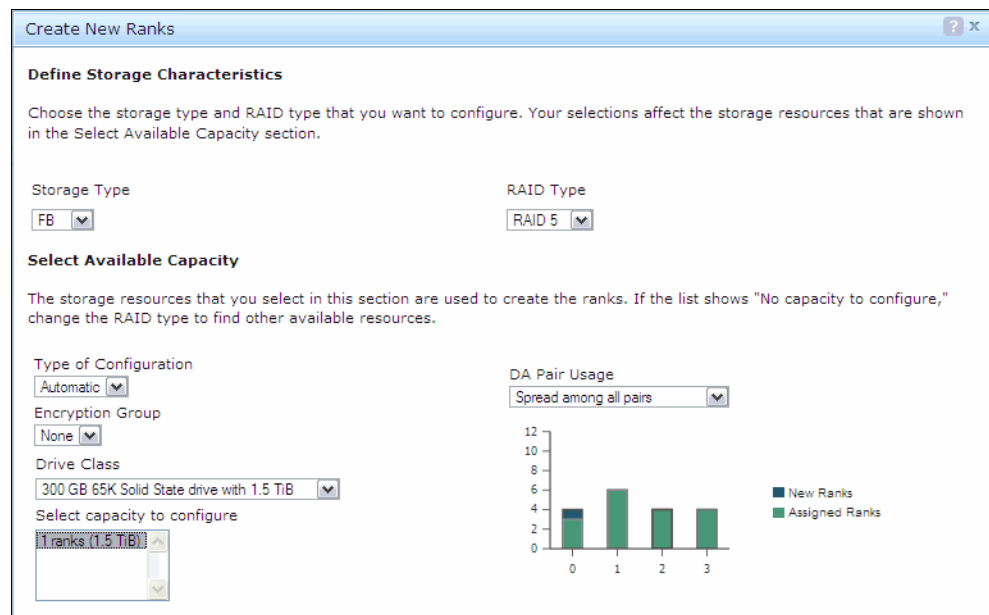

Figure 13-25 Create New Ranks window
2. The Create New Ranks window opens (Figure 13-25).